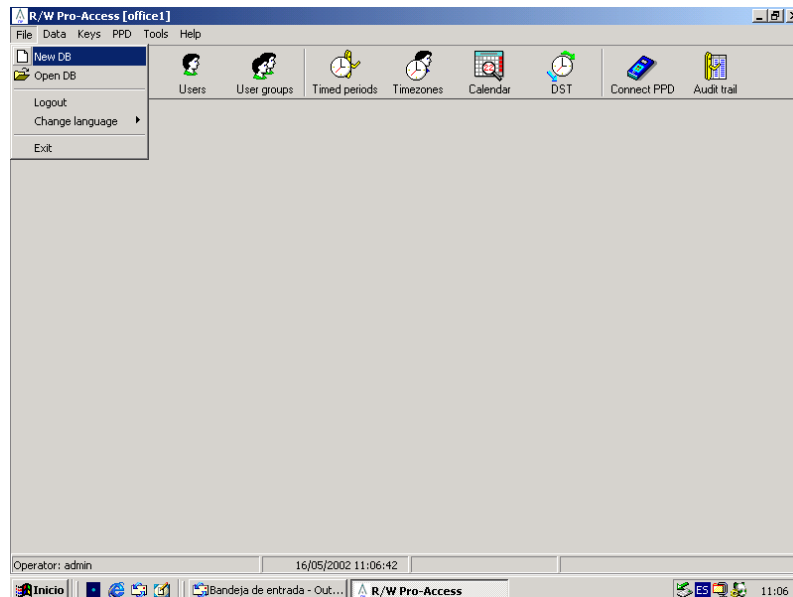

Figure 3
- A window like that of Figure 3 will display.
- If the application is used in multiworkstation mode, It is important not forget the directory name where the data base will be saved, as well as doing backup copies of the data base, since the whole locking schedule is intrinsically linked to it. See Figure 3.